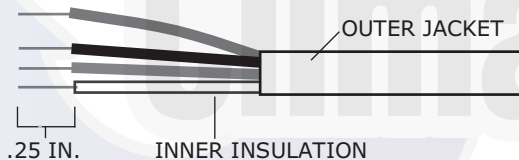

Fig. 16 — Rnet Cable Wire
2. Strip about 1/4 in. of the inner insulation from each wire. See Fig. 16.